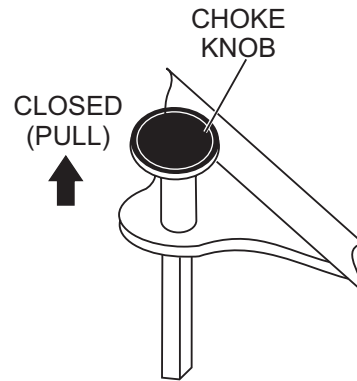

Figure 14. Choke Knob (Closed Position)
3. If starting a cold engine, pull the choke knob (Figure 14) upward to the **CLOSED** position.